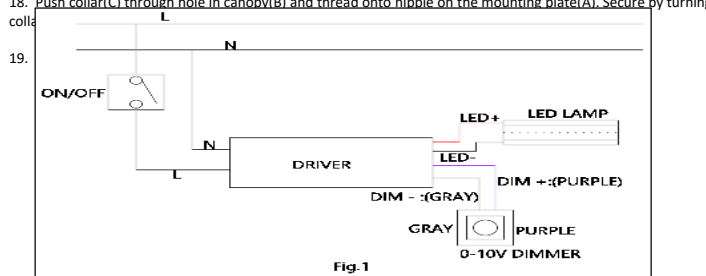

Fig.2
- Please note that this product is suitable for 0-10V dimmer switch. Connect the purple wire (+) and the gray wire (-) to the dimmer switch as shown in below Figure 2. **BE SURE NO STRANDS ARE EXPOSED.**
- Connect the power wires(L) of the lamp together using the fast connector (P). Connect the black wire to the positive electrode and the white wire to the negative electrode of the fast connector (P).
- Gently tuck the wire connections(K) neatly into the ceiling junction box.
- Place the mounting plate(A) over the center of the ceiling junction box.
- Align holes in mounting plate(A) with holes in junction box and attach with two mounting screws(J). Secure screws with a Phillips head screwdriver.
- Push collar(C) through hole in canopy(B) and thread onto nipple on the mounting plate(A). Secure by turning collar.